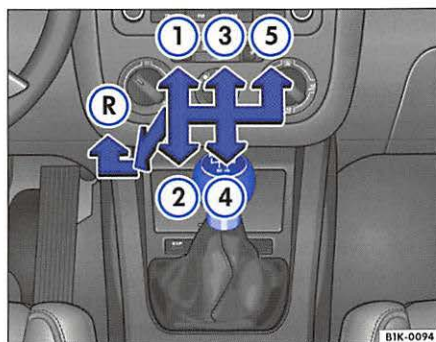
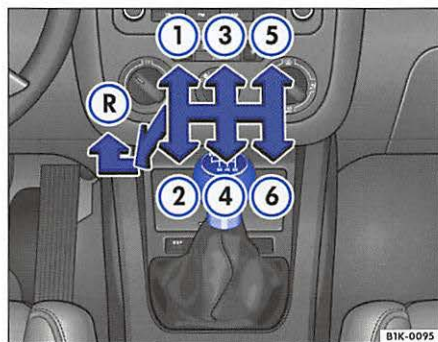

Fig. 77 Section of center console: 5-speed manual transmission
Fig. 78 Section of center console: 6-speed manual transmission
- Press the gearshift lever down, move it to the left and then move it forward into Reverse ⇒fig. 77 (R) or ⇒fig. 78 (R) shown on the gearshift lever.